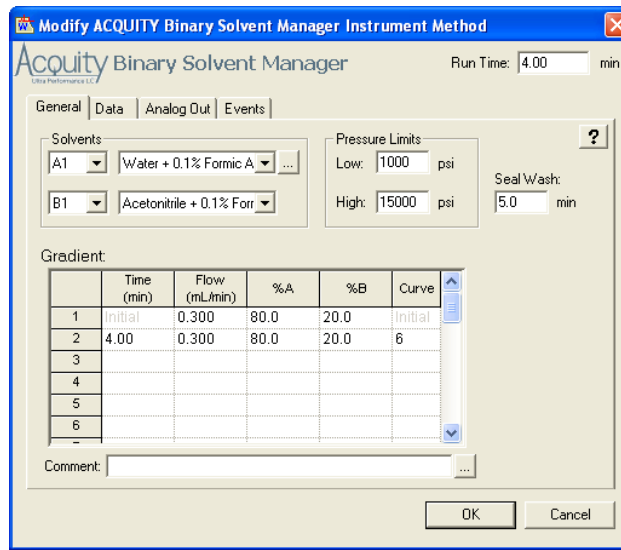
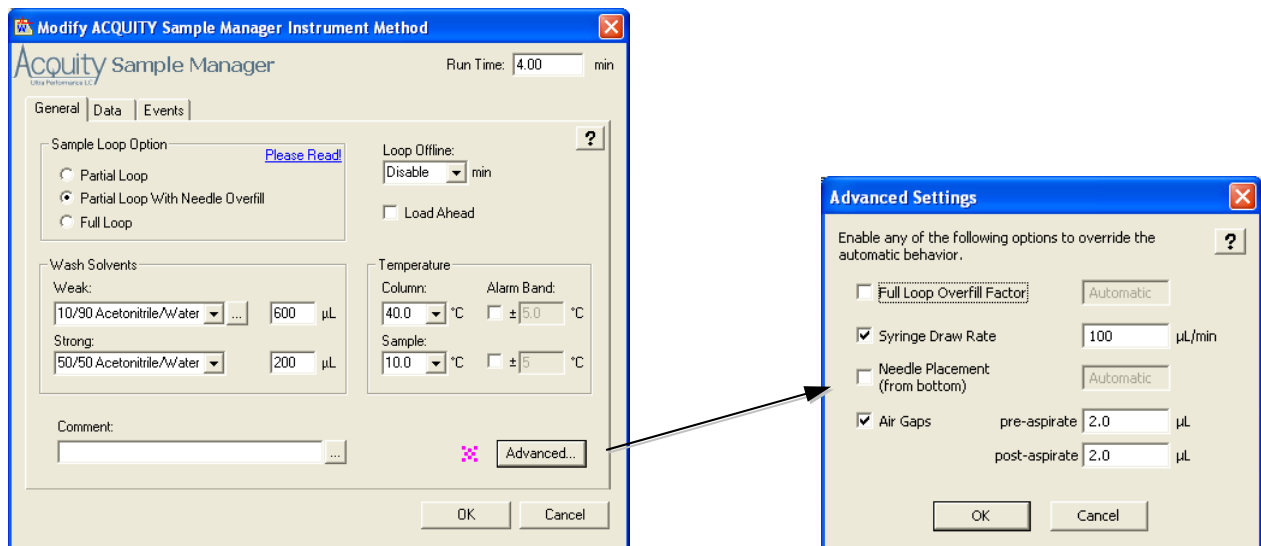

Figure 56 - Binary solvent manager parameters for system precision test
Figure 57 - Sample manager parameters
- a. Create the inlet method for the system precision test using the settings displayed in Figure 56 and Figure 57.
- a. Create the inlet method for the gradient performance test with the parameters displayed in Figure 58, and the same sample manager parameters used in the system precision test (Figure 56).